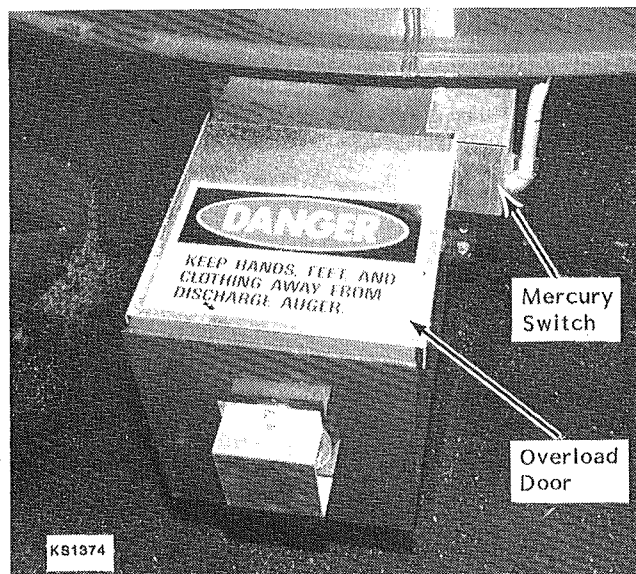

Figure 10 - Rear Discharge Overload Door
1. If the take-away system fails, the dryer will discharge grain until the rear discharge overload door (Figure 10) is raised by the grain.